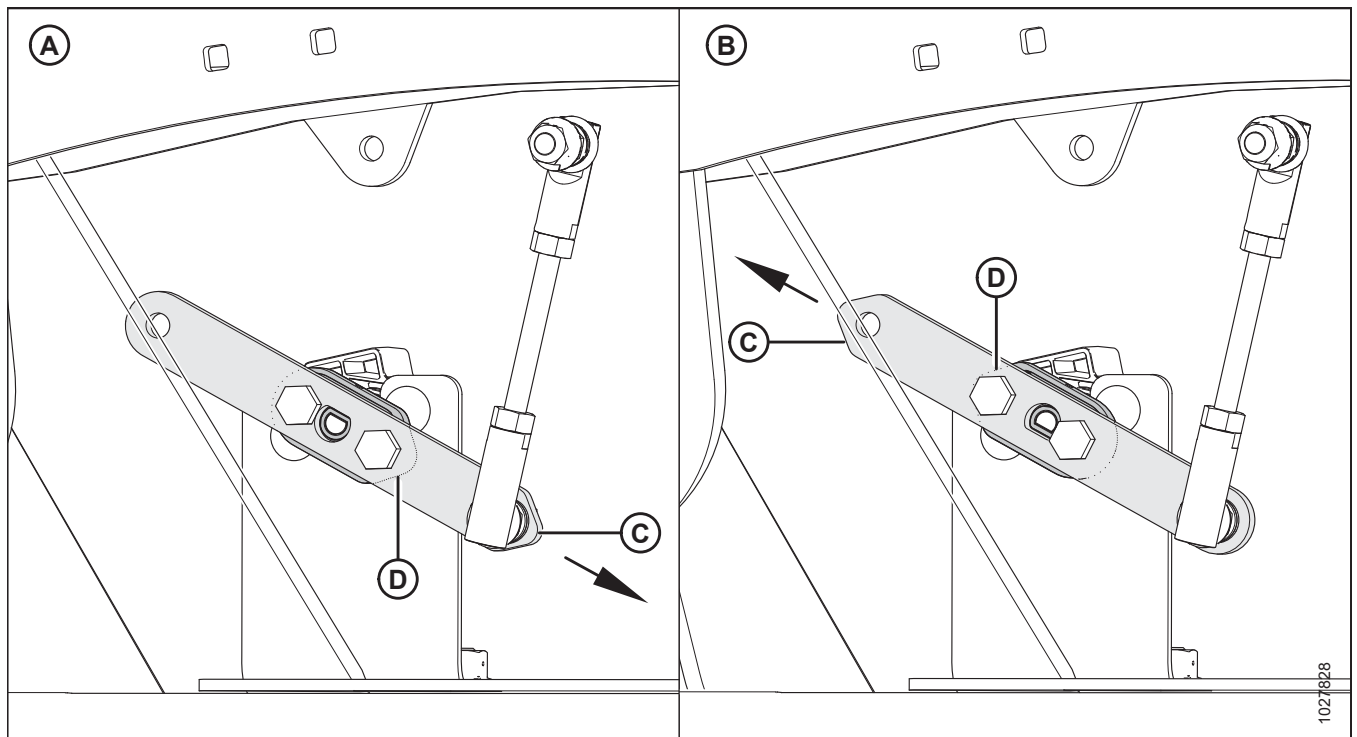

Figure 8.1: Sensor Arm/Pointer Configurations
2. Check that sensor arm (C) and pointer (D) are configured properly for your machine. Refer to Figure 8.1, page 365.